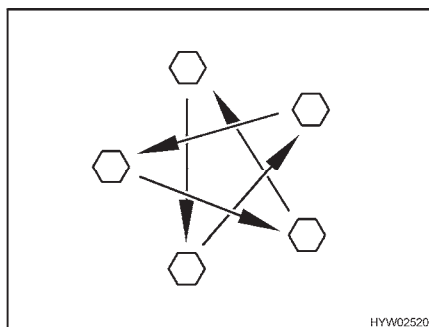

Fig. 176 Tighten the wheel nuts or wheel bolts cross-wise
- Check regularly that the wheel nuts or wheel bolts are firmly seated. Re-tighten the wheel nuts or wheel bolts of a changed wheel cross-wise (Fig. 176) after 50 km (30 miles).